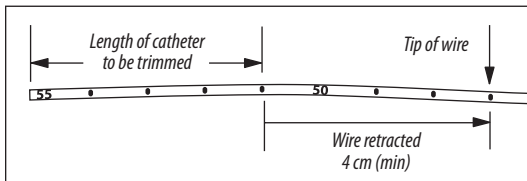

Figure 3
- To trim catheter with Catheter Trimmer, retract placement wire 1-1/2 inches minimum (4 cm) behind where catheter is to be cut. The placement wire is to be withdrawn through septum (see Figure 3).